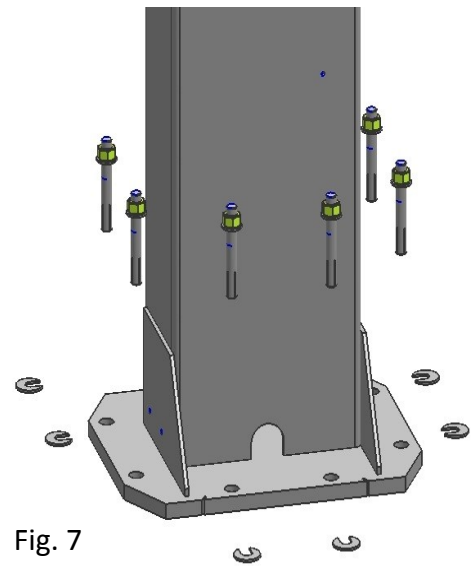

Fig. 7
STEP 9: Using a level, check column for side-to-side plumb and front-to-back plumb. If needed, use shims provided by placing shims underneath the base plate and around the anchor bolt. This will prevent bending the column bottom plates (Shim thickness must not exceed 3/8"). Tighten 3/4" anchor bolts to **100 ft-lbs.** of torque. (see page 14) (Fig 7)